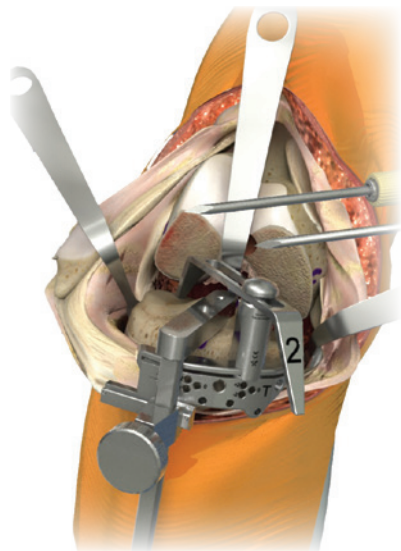

Figure 33
6. Adjust the resection level by lowering the universal cutting block until the tibial stylus touches the low point on the less affected side of the tibia. The tibial stylus can be adjusted for 2mm (affected side) or 9mm (unaffected side) tibial resection by reversing its position in the cutting slot of the universal cutting block (Figure 33).